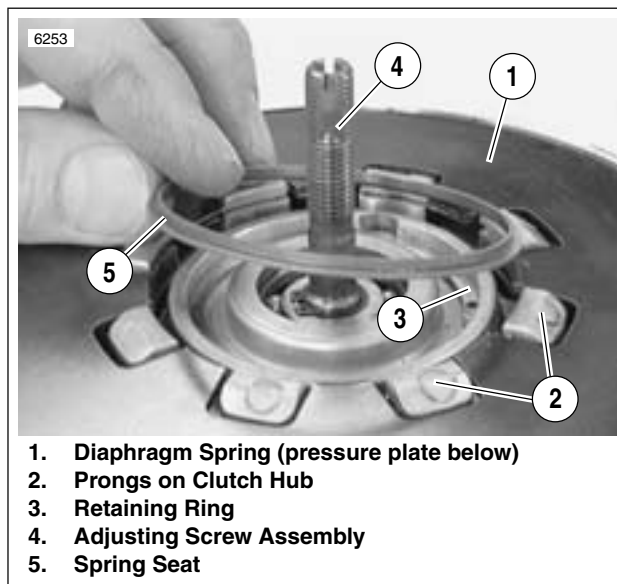

Figure 6-19. Spring Seat Installation
- See Figure 6-19. Align square openings of pressure plate and diaphragm spring (1) so that the assembly can be installed over prongs (2) of clutch hub.
- Position spring seat (5) with its larger O.D. side toward diaphragm spring (1).
- See Figure 6-19. Position diaphragm spring (1) with its concave side facing toward pressure plate onto pressure plate assembly.